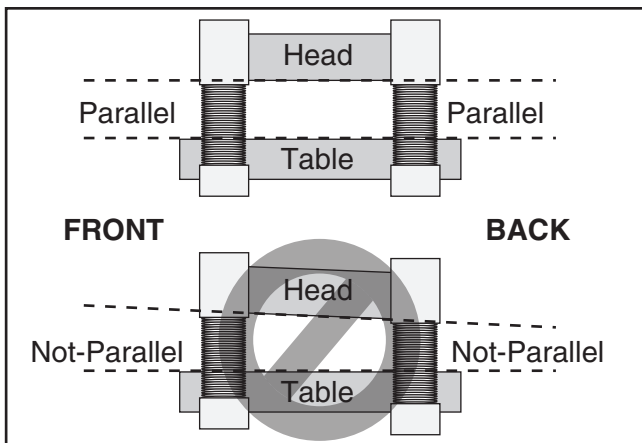

Figure 77. Front-to-back parallelism.
How the planer table sits in relation to the head casting from front-to-back is also important (see **Figure 77**). The tolerances on the front-to-back positioning are not as critical as the cutterhead/table side-to-side positioning. Therefore, the maximum allowable tolerance for the front-to-back parallelism is not more than 0.020".
- If table is not parallel to cutterhead front-to-back (**Figure 77**), loosen (2) lock nuts at front or back of cylinder liner. Adjust set screws to raise or lower front or back of table so it is parallel to cutterhead.
4. Tighten (4) cap screws on cylinder liner.